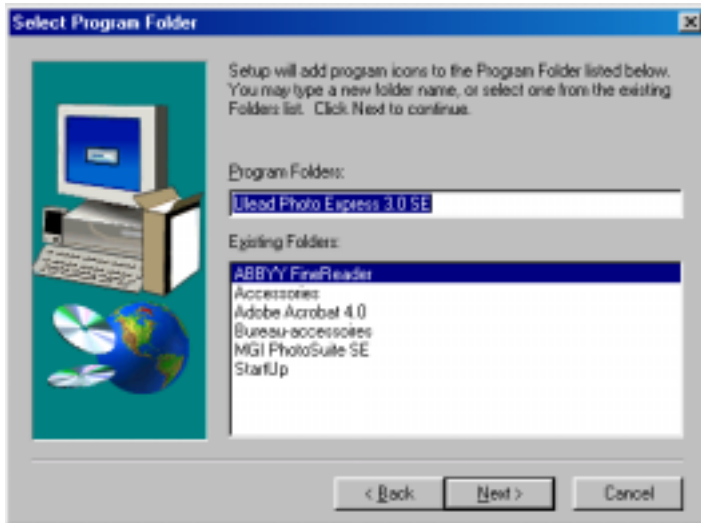

Figure 12: indicate location for program icon
9. If you wish, indicate a location for the program icons and click on 'Next'. See figure 12.